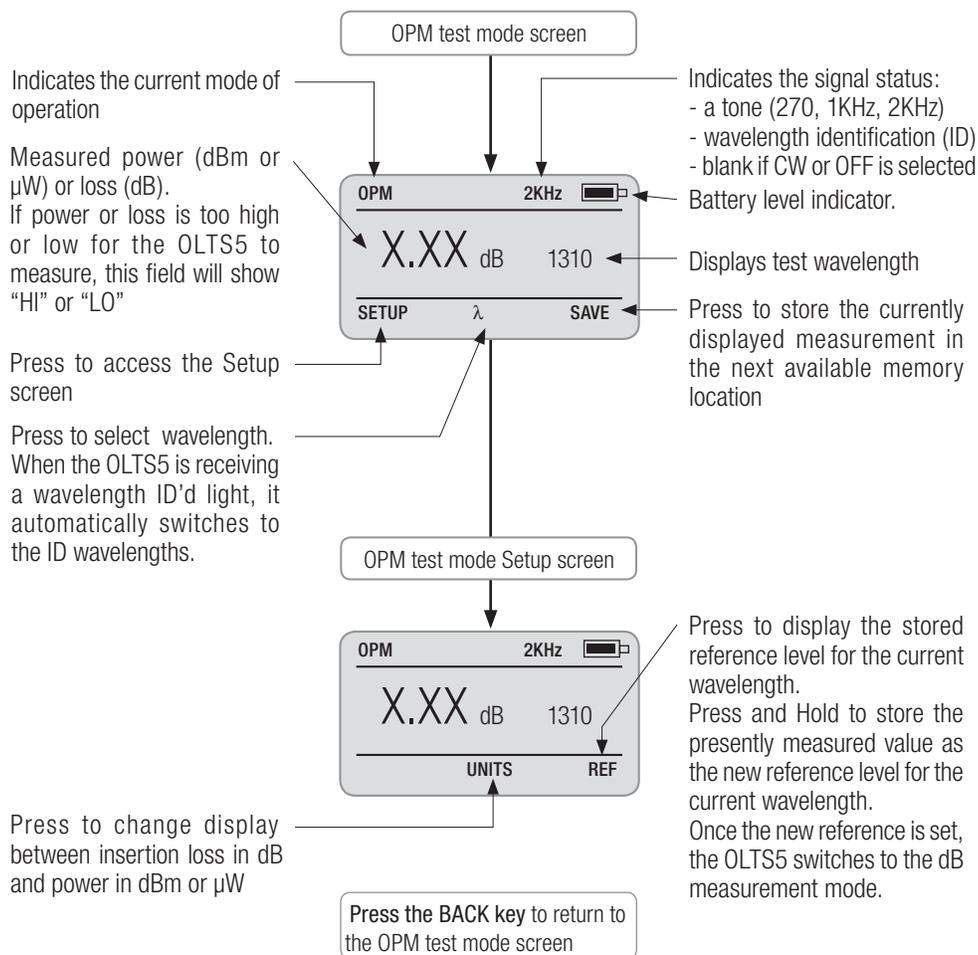

Figure 5-1. OPM Test Mode Screens and Features.
- 2 From the OPM test screen, press SETUP to access the Setup screen (Figure 5-1).